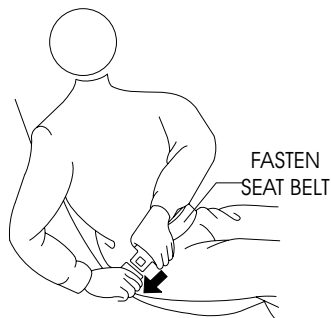

Figure 17. Securing Seat Belt
2. Sit down in the operator's seat and adjust the seat for a comfortable position, then fasten the seat belt (Figure 17) around your waist. NEVER operate the roller without the seat belt being fastened. Serious injury could occur if the seat belt is not used.